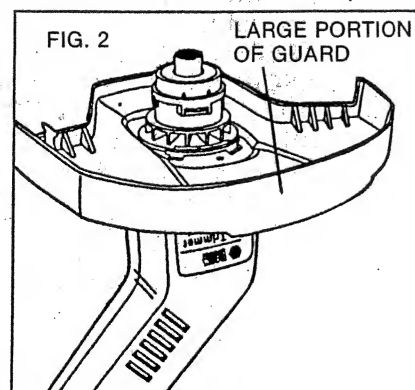

FIG. 2
2. With the guard positioned as shown in Figure 2 (the large portion of the guard on the side of the trimmer that has the "YARD TRIMMER" label) place the flanges on the guard into the slots in the motor housing. Study Figures 2 & 3 carefully in order to perform this step correctly.